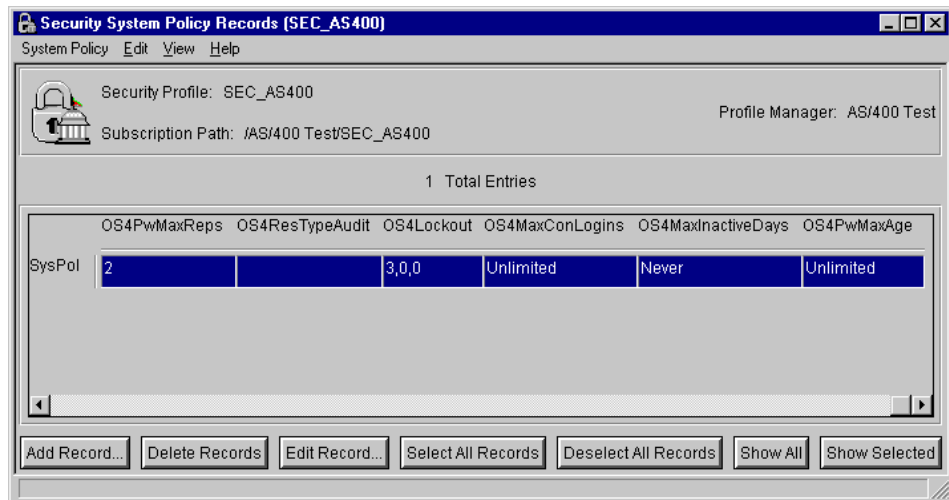

Figure 315. Security System Policy records
6. You will see that a new record has been created. This record contains the current login policy values from our AS/400 subscribers. See Figure 315 on page 481.